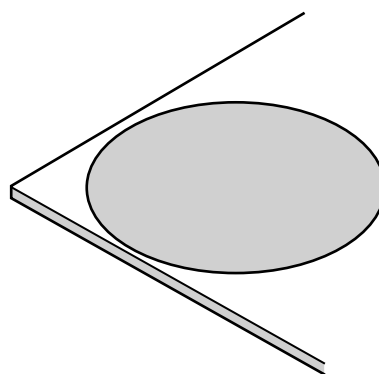

Fig. 8
- (b) (i)** Fig. 8 shows the clock face marked out on a sheet of 12 thick plywood. The shape will be cut out using a jigsaw.